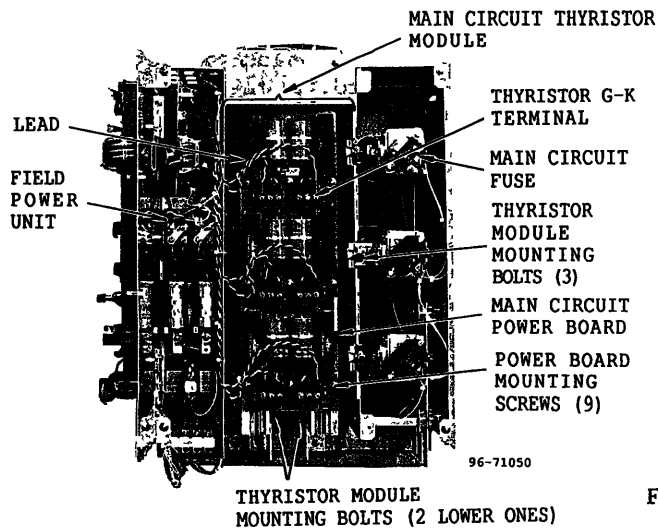

Fig. 20 Main Circuit Thyristor Assembly (230 V, 260 A System)
1. Remove the 6 clamping screws for thyristor gate cathode terminal, and free the leads. In this case, mark the terminals for identification. (Fig. 20)
(Fig. 20)